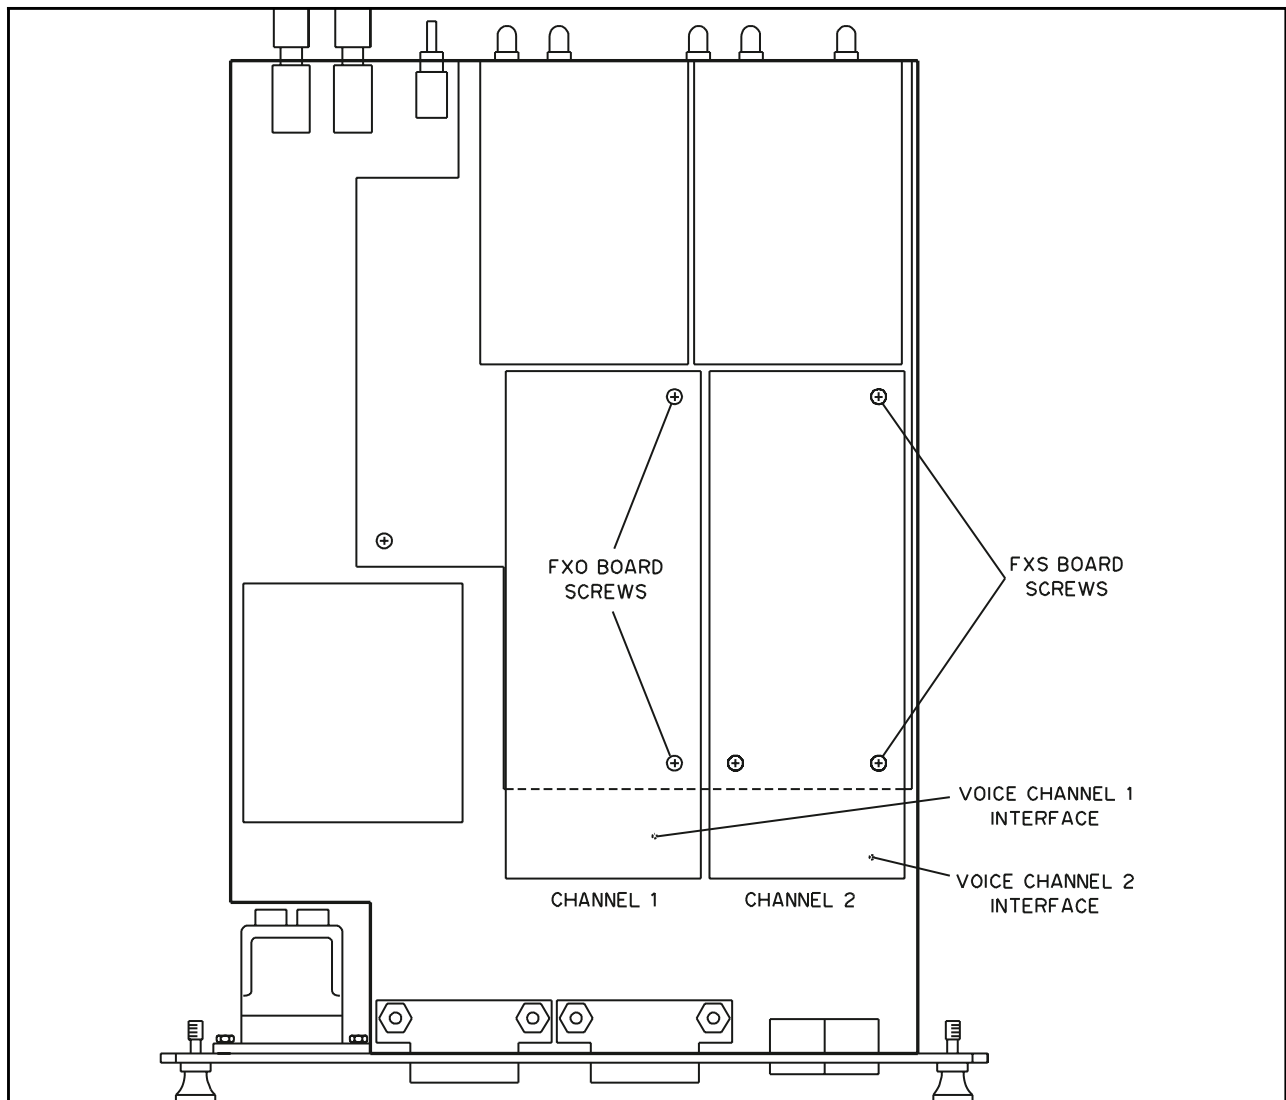

Figure B-2. Board Identification
- Refer to figure B-2 and identify the interface boards.